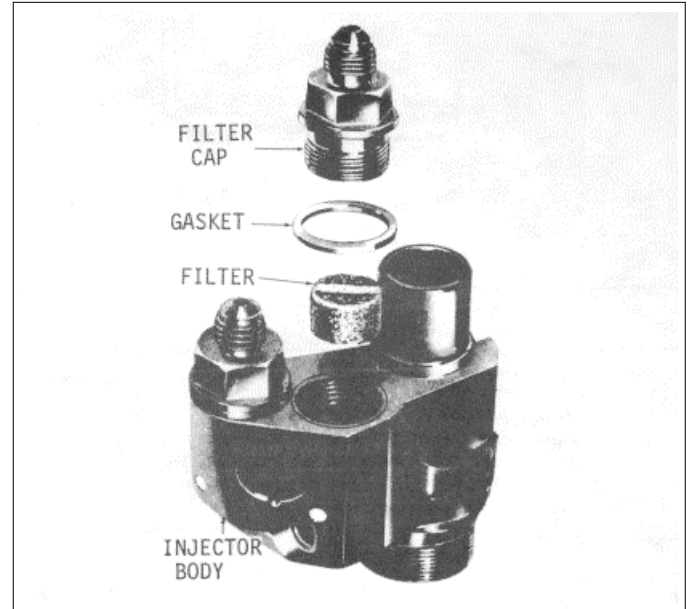

Fig. 35
(1) Insert a new filter, dimple end down, slotted end up, in each of the fuel cavities in the top of the injector body (Fig. 35).